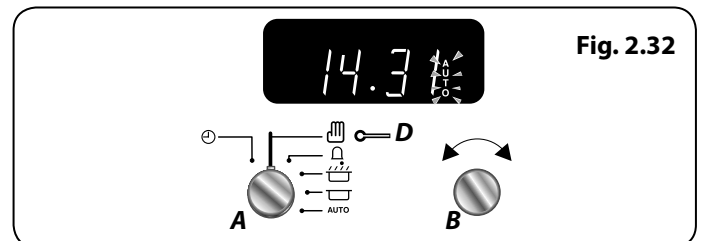

Fig. 2.32
6. When the program starts the Multifunction Oven, the 'Cooking' symbol will appear on the display. Once the specified time has elapsed it will emit an alarm and the Multifunction Oven will stop working. The 'Cooking' symbol on the display will disappear and the word 'AUTO' will flash (**Fig. 2.32**).